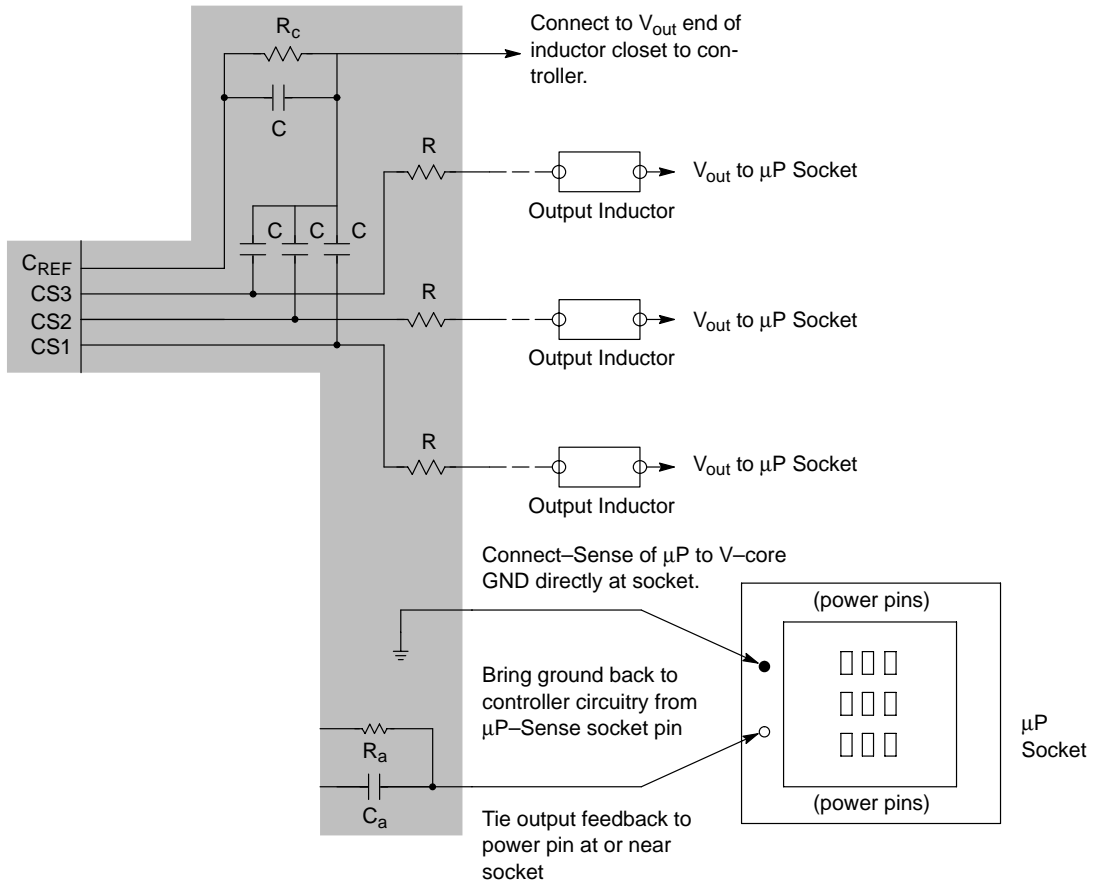

Figure 18. Layout for Connections to Controller Circuitry
7. For the feedback to the Enhanced V² controller and the controller itself, follow the steps and diagram outlined in Figure 18.